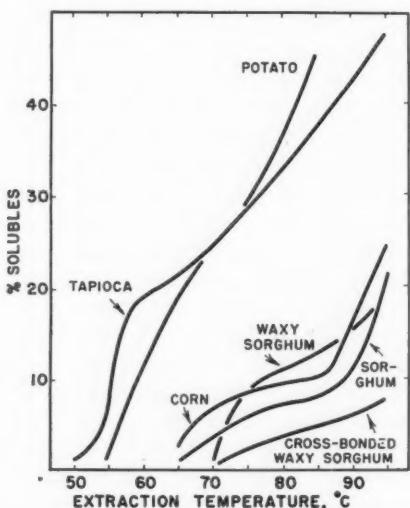

Fig. 7. Solubility patterns of various thick-boiling starches.
The percentage of soluble starch which leaches out of the granule during swelling can also be determined, by drying an aliquot of the supernatant solution from centrifuging. The resulting solubilization curves (Fig. 7) are very similar to the swelling curves. Potato and tapioca starches show the highest solubilization, the cross-bonded waxy sorghum, the least. These same techniques can be used to elucidate the swelling and solubility characteristics of the various modified starches, or the influence of added substances on starch swelling (3).